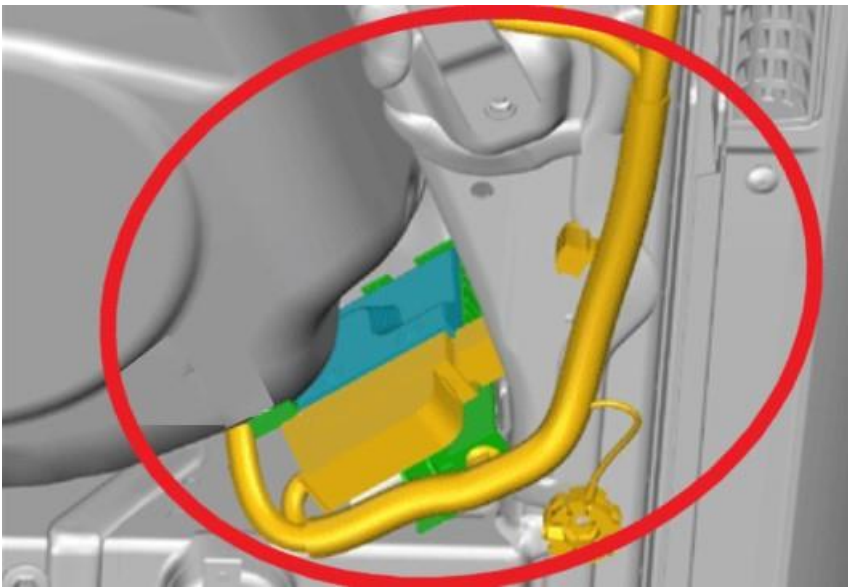

Figure 7
- Referring to Figure 7 and 8 (Point A) - Conduct a check of the wiring harness to confirm if any damage is evident